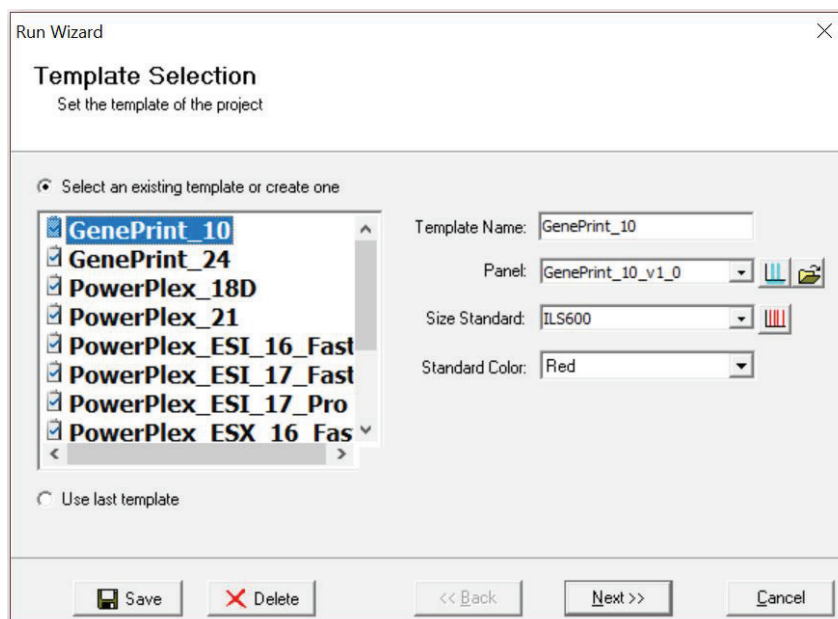

Figure 30. The 'Template Selection' window.
- Click on **Run** in the Magic Wizard or click the **Run Project** icon (green arrow) in the toolbar. The 'Template Selection' screen will appear (Figure 30). Select the GenePrint_10 template and the settings shown in Figure 30. Verify the panel that you created in Step 6 is selected in the Panel drop-down field. The Size Standard must be ILS600 and the Standard Color must be Red. Select **Next**.